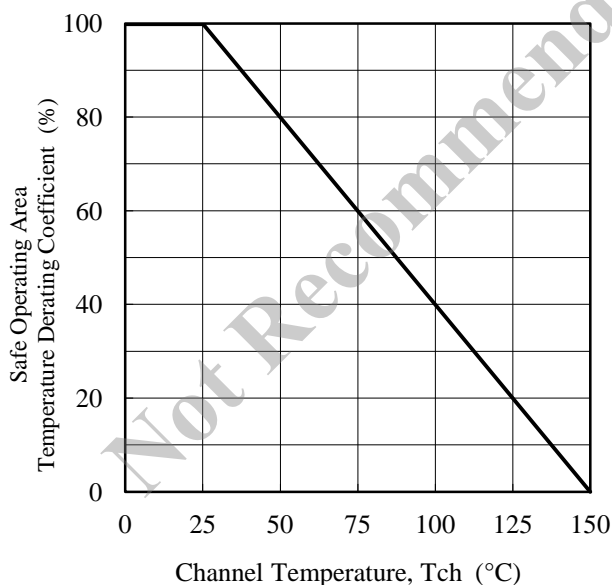

Figure 3-1. SOA Temperature Derating Coefficient Curve
(1) See Figure 3-1. SOA Temperature Derating Coefficient Curve
- When the IC is used, the safe operating area curve should be multiplied by the temperature derating coefficient derived from Figure 3-1.